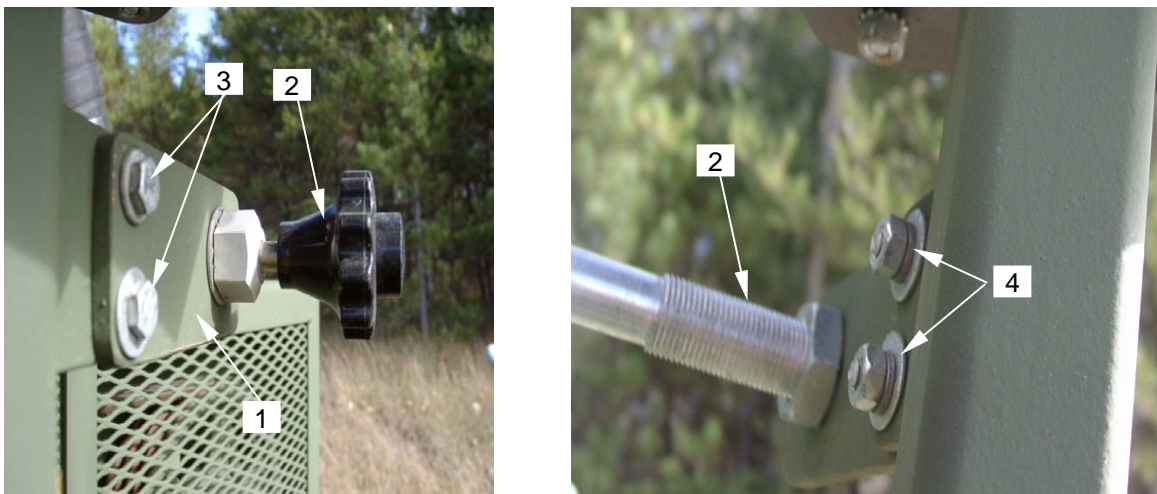

Figure 15. Installing Throttle Bracket
21. Position the throttle mounting plate (**figure 15, item 1**) with throttle attached (**figure 15, item 2**) onto the control post. Install two hex bolts (**figure 15, item 3**), nuts, flat and lock washers (**figure 15, item 4**) to secure throttle to post.